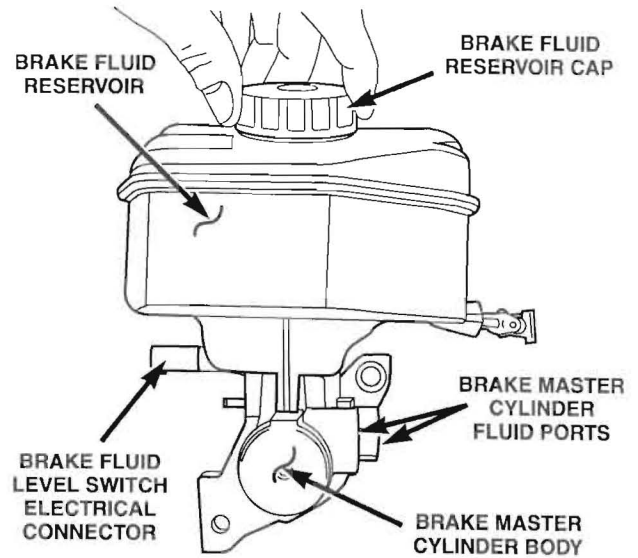

Figure 1
1. Remove the brake fluid level switch electrical connector (Figure 1).